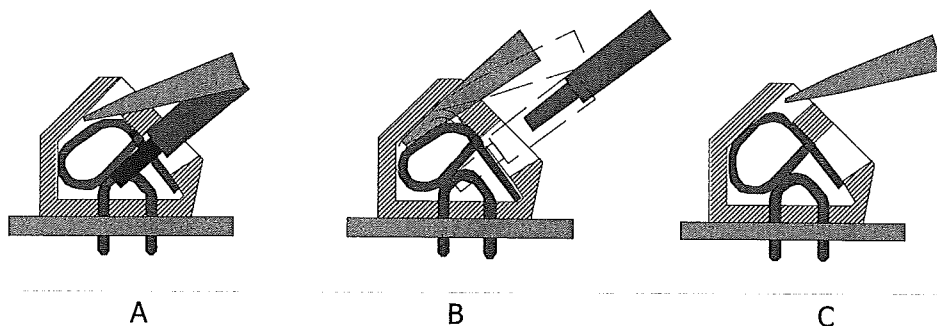

Fig. 4.15 Removing connections in screwless spring-loaded terminals
- Place a size 1 screwdriver in the upper opening and insert it turning slightly upwards (Fig. 4.15 A).
- Then draw the wire from the lower opening (Fig. 4.15 B).
- Withdraw the screwdriver (Fig. 4.15 C).